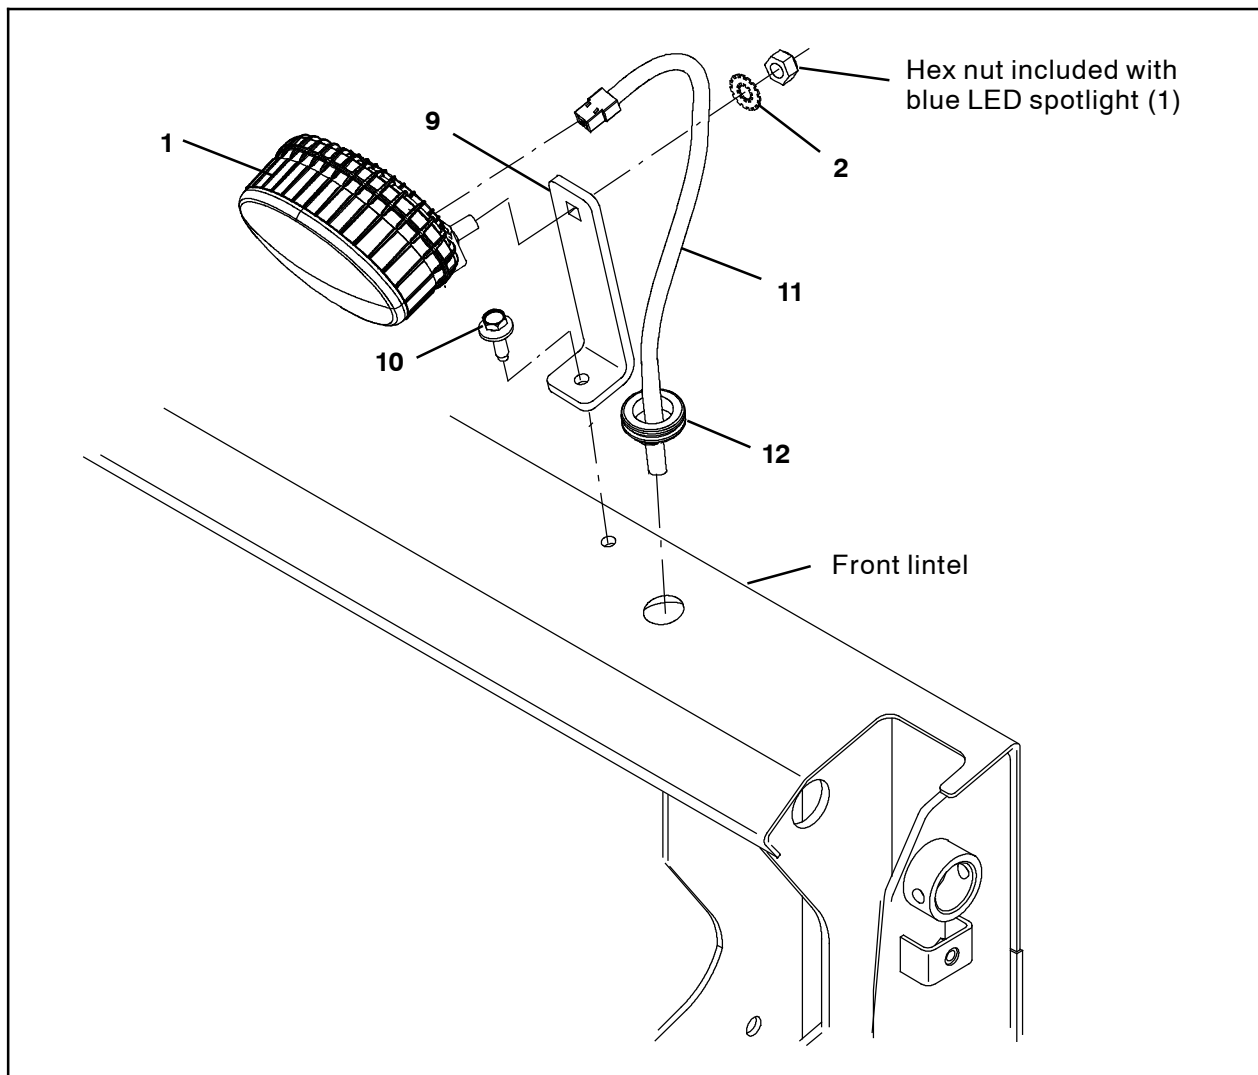

FIG. 15
4. Use a SEMS M8 hex screw (10) to install the blue spotlight mounting bracket (9) onto the front lintel. (Fig. 15)
5. Remove the hex nut included with the blue LED spotlight (1) from the light. (Fig. 15)
6. Use the hex nut removed from the blue LED spotlight (1) in the previous step and a lock washer (2) to install the blue LED spotlight onto the blue spotlight mounting bracket (9). (Fig. 15)
7. Route the end of the blue spotlight harness (11) to be connected to the blue LED spotlight (1) through the 1.375 in. (35 mm) hole in the front lintel. (Fig. 15)
8. Slide the rubber grommet (12) onto the end of the blue spotlight harness (11) to be connected to the blue LED spotlight (1). (Fig. 15)
9. Connect the blue spotlight harness (11) to the blue LED spotlight (1). (Fig. 15)
10. Insert the rubber grommet (12) into the 1.375 in. (35 mm) hole in the front lintel. (Fig. 15)